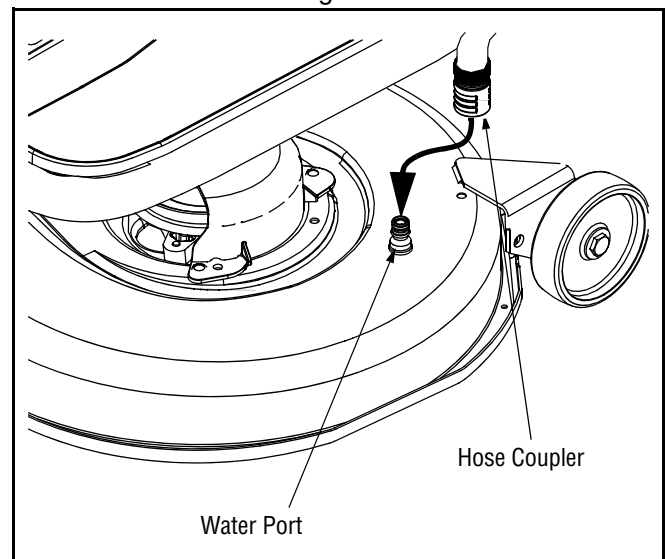

Figure 20
4. Attach the hose coupler to the water port on your deck's surface. See Figure 20.